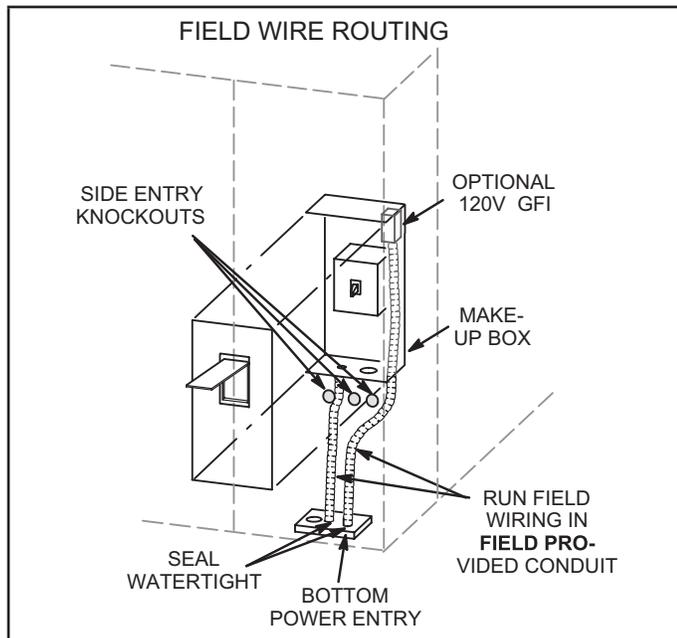

FIGURE 11
Route field wiring in conduit between bottom power entry disconnect. See FIGURE 11. This does not supersede local codes or authorities having jurisdiction.
- 3 - *Units with optional 120V GFCI Outlet* - Route and connect separate 120V wiring to GFCI outlets which do not have factory-installed wiring. Route field wiring in conduit between bottom power entry and GFCI. See FIGURE 11.